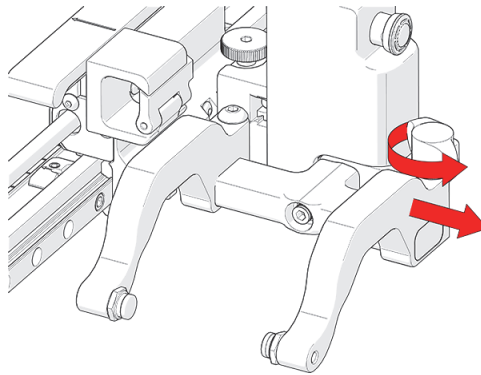

Figure 3-21 Remove outer arm
2. Loosen the probe holder adjustment knob and remove the outer probe holder arm (see Figure 3-21 on page 52).